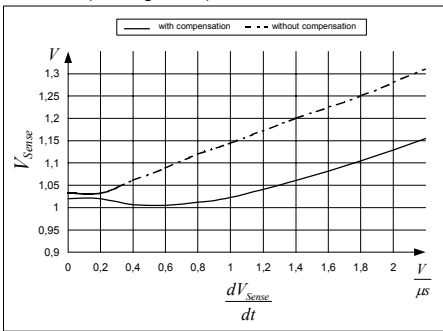

Figure 13 Overcurrent Shutdown
the overshoot dependency on dl/dt of the rising primary current. That means the propagation delay time between exceeding the current sense threshold V_{csth} and the switch off of the external Power Switch is compensated over temperature within a wide range. Current Limiting is now possible in a very accurate way (see Figure 13).
E.g. $I_{peak} = 0.5A$ with $R_{Sense} = 2$. Without Propagation Delay Compensation the current sense threshold is set to a static voltage level $V_{csth} = 1V$. A current ramp of $dl/dt = 0.4A/\mu s$, that means $dV_{Sense}/dt = 0.8V/\mu s$, and a propagation delay time of i.e. $t_{Propagation\ Delay} = 180ns$ leads then to an I_{peak} overshoot of 12%. By means of propagation delay compensation the overshoot is only about 2% (see Figure 13).